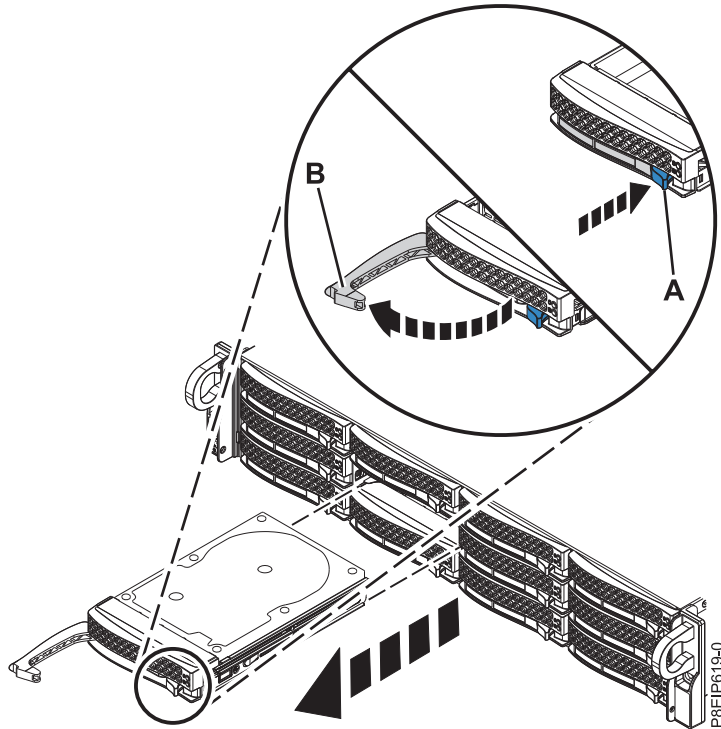

Figure 1. Removing a drive
3. Unlock the drive bay handle (B) by pushing in the handle release (A) as shown in Figure 1 on page 4. The handle (B) snaps out towards you. If the handle does not snap out all the way, the drive does not slide out of the system. If the drive does not match the serial number you wrote down in the previous step, reinstall the drive in the bay you removed it from, and check the other drive bays.